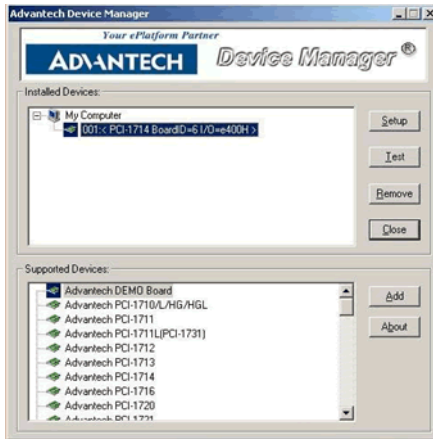
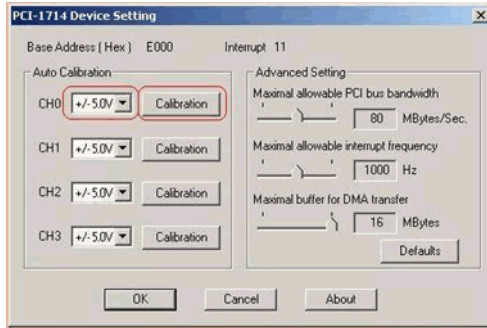

Figure 5.1: Click the Setup button to Launch the Device Setting
Figure 5.2: Click the Calibration Button to Launch the Calibration
Step 1: Click the **Setup** button on the **Advantech Device Manager** window (Fig.5-1) to launch the **PCI-1714 Device Setting** window (Fig.5-2).